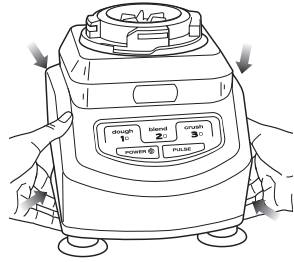

Fig. 13
- 3 To release the motor base from the counter or table top, place your hands underneath both sides of the motor base and gently pull the unit up and towards you. **(Fig. 13)**